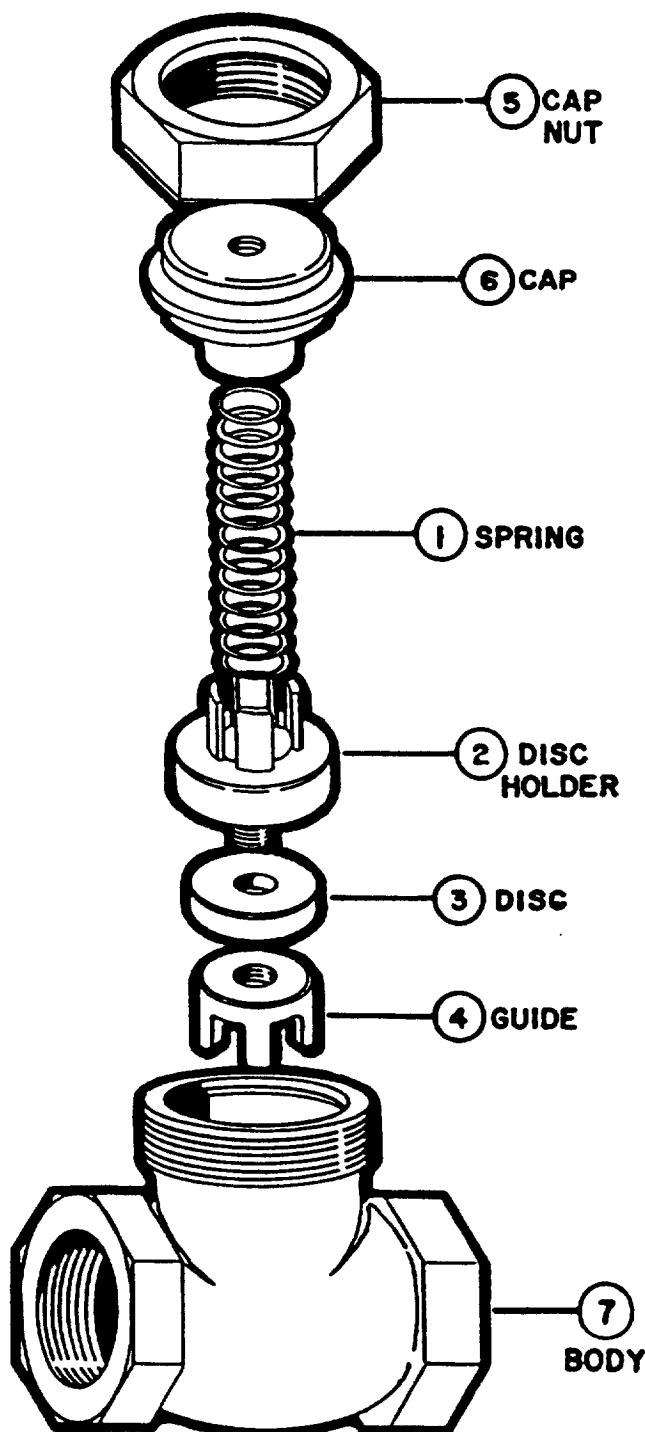

FIGURE 49
1. Disassembly (see Fig. 49)
- a. Unscrew cap nut (5).
- b. Remove cap (6).
- c. Lift out spring (1) and disc holder (2).
- d. Unscrew disc guide (4).
- e. Remove disc (3).
- a. Install new disc (3).
- b. Replace disc guide (4).
- c. Install disc holder (2) and spring (1).